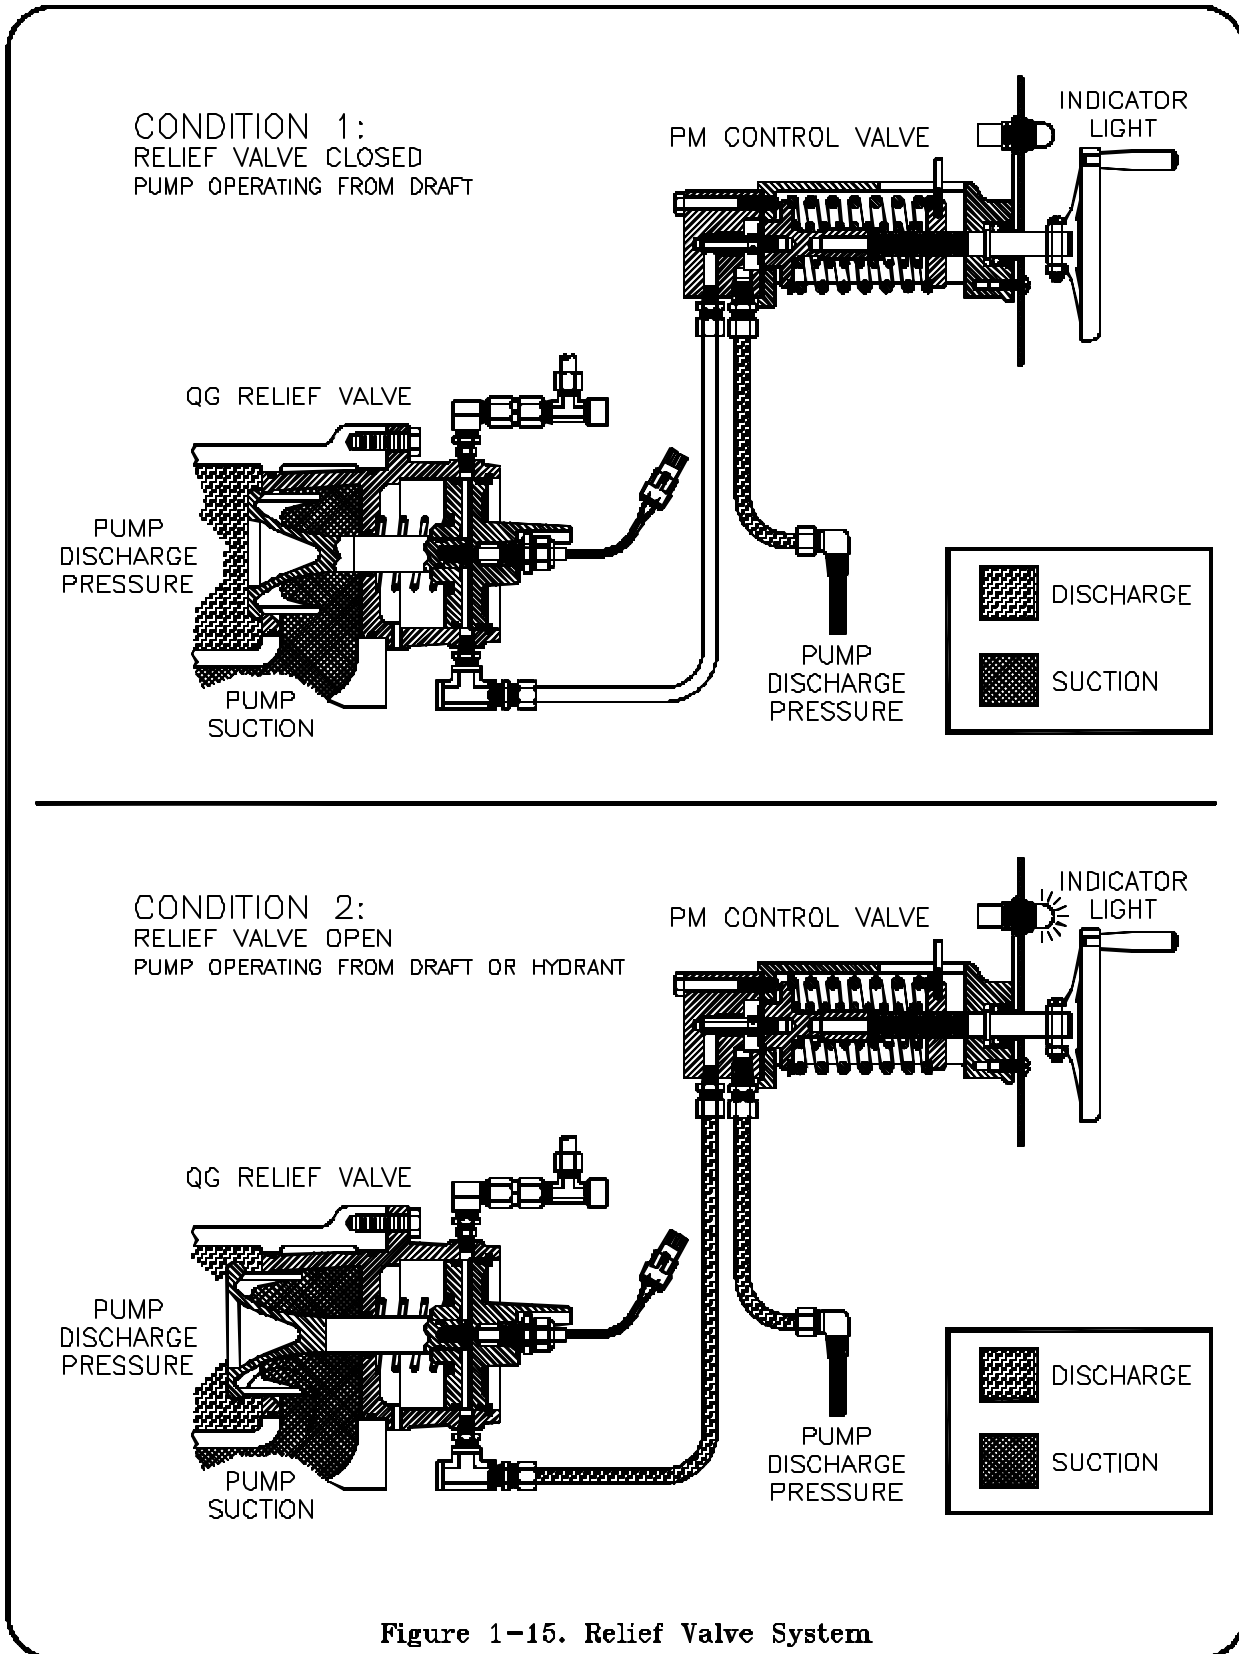

Figure 1-15. Relief Valve System
The Hale Standard Relief Valve System is shown in figure 1-15. The relief valve system consists of a panel mounted control valve (PM) and an internal relief valve, either a QG as shown or a QD.